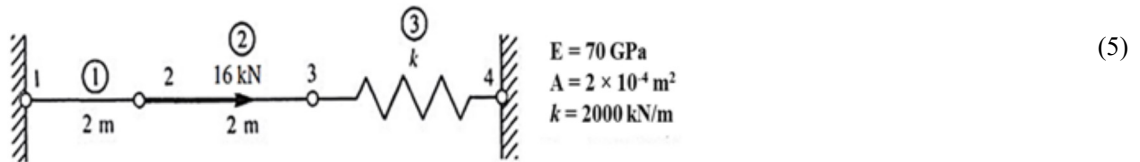

Figure 2 Bar assemblage
- 2) For the bar assemblage shown in Figure 2, determine the unknown nodal displacements.
- B) Evaluate the reactions at the support for the bar assemblage shown in Figure 2. (2)